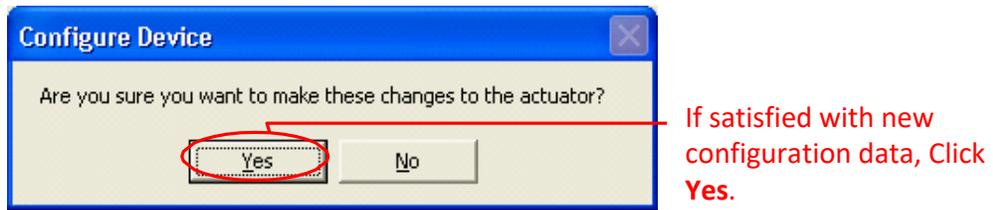

Figure 6-9. Choosing to Continue with Configuration Changes to the Device.
9. After the **Configure** button has been activated, the user will be prompted to confirm changes to the actuator are to be applied. Click **Yes** to proceed with the changes, or click **No** to return to the configuration screen (Figure 6-9).